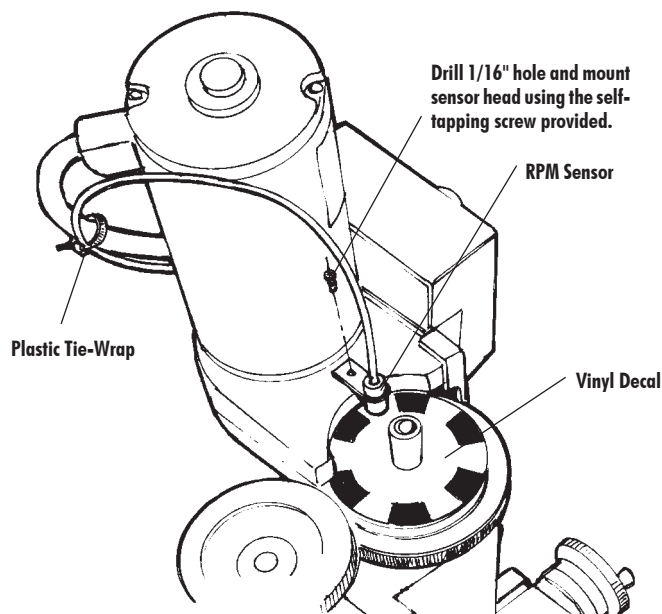

FIGURE 7—Mounting the sensor to the belt housing
3. Locate the RPM sensor by holding it in the position shown in Figure 7. Mark the center of the hole on the plastic belt housing and drill a 1/16" hole. Fasten the sensor to the belt housing using the self-tapping screw provided. (Do not overtighten or you can strip the threads.) A plastic tie-wrap is provided to secure the sensor lead to the motor's power cord to keep it out of the way.